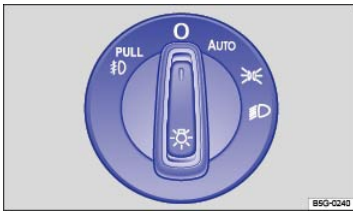

Fig. 93 Headlight switch next to the steering wheel (with fog lights and automatic headlights, if equipped).
- **Switching on fog lights** : Pull the light switch  $\Rightarrow$  Fig. 93 out to the detent. The indicator lamp  in the light switch lights up green.